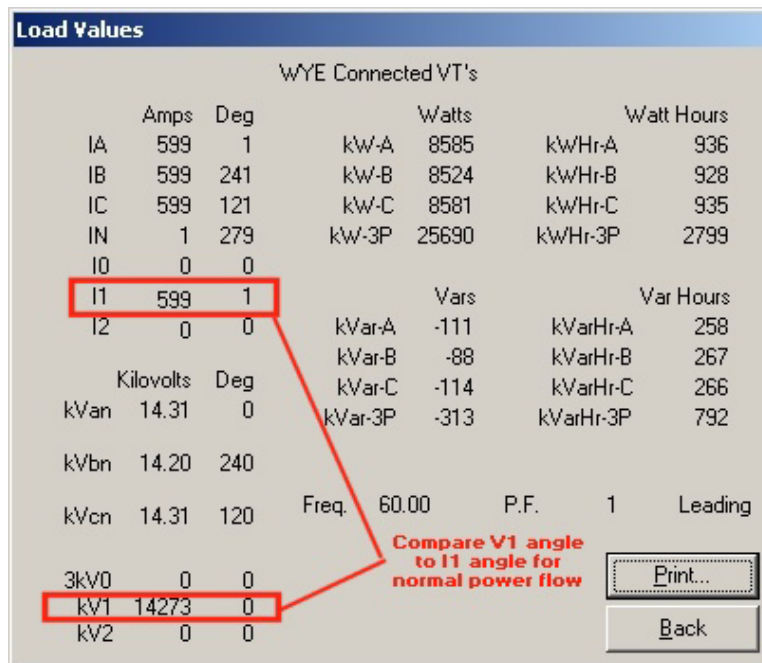
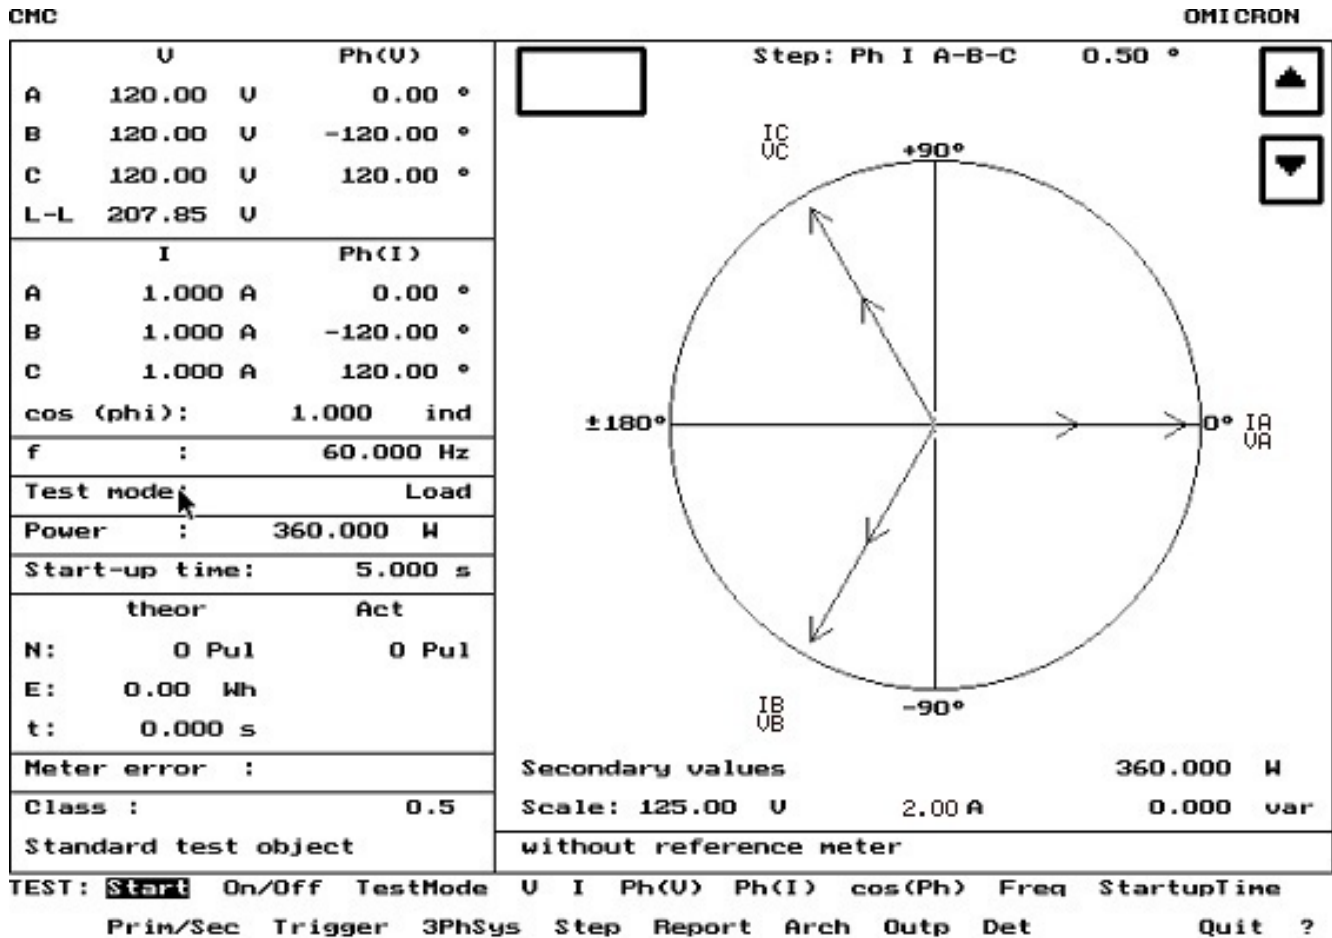

Figure 5: WinPCD Metering Screen
Figure 6: Omicron Metering Screen
2. To choose the torque angle, compare the positive sequence current I1 with the positive sequence voltage V1 (see Figure 5). This is the metered value from the PCD displayed on the metering screen (also displayed in the PCD's HMI). Also note that this figure shows the phase rotation as ABC, i.e., B lags A by 120 degrees and C lags B by 120 degrees.
3. Figure 6 shows the corresponding input screen from an Omicron Test Set, the source for our “normal power flow” metered values shown in Figure 5. This test set allows the user to observe the behavior of the 32P across the range of phase angles.